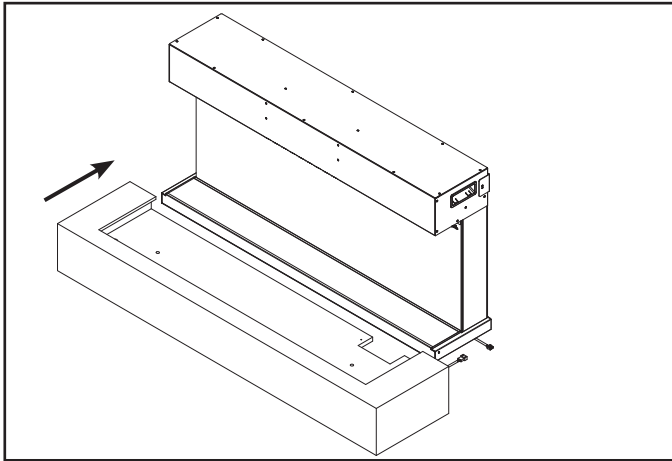

Figure 1
1. Slide the bottom mantel section onto the appliance and connect the bottom mantel wire connection to the appliance wire connector protruding from the bottom of the appliance (the cover plate on the bottom of the appliance may need to be removed to access the wire connector). See Figure 1 and 2.